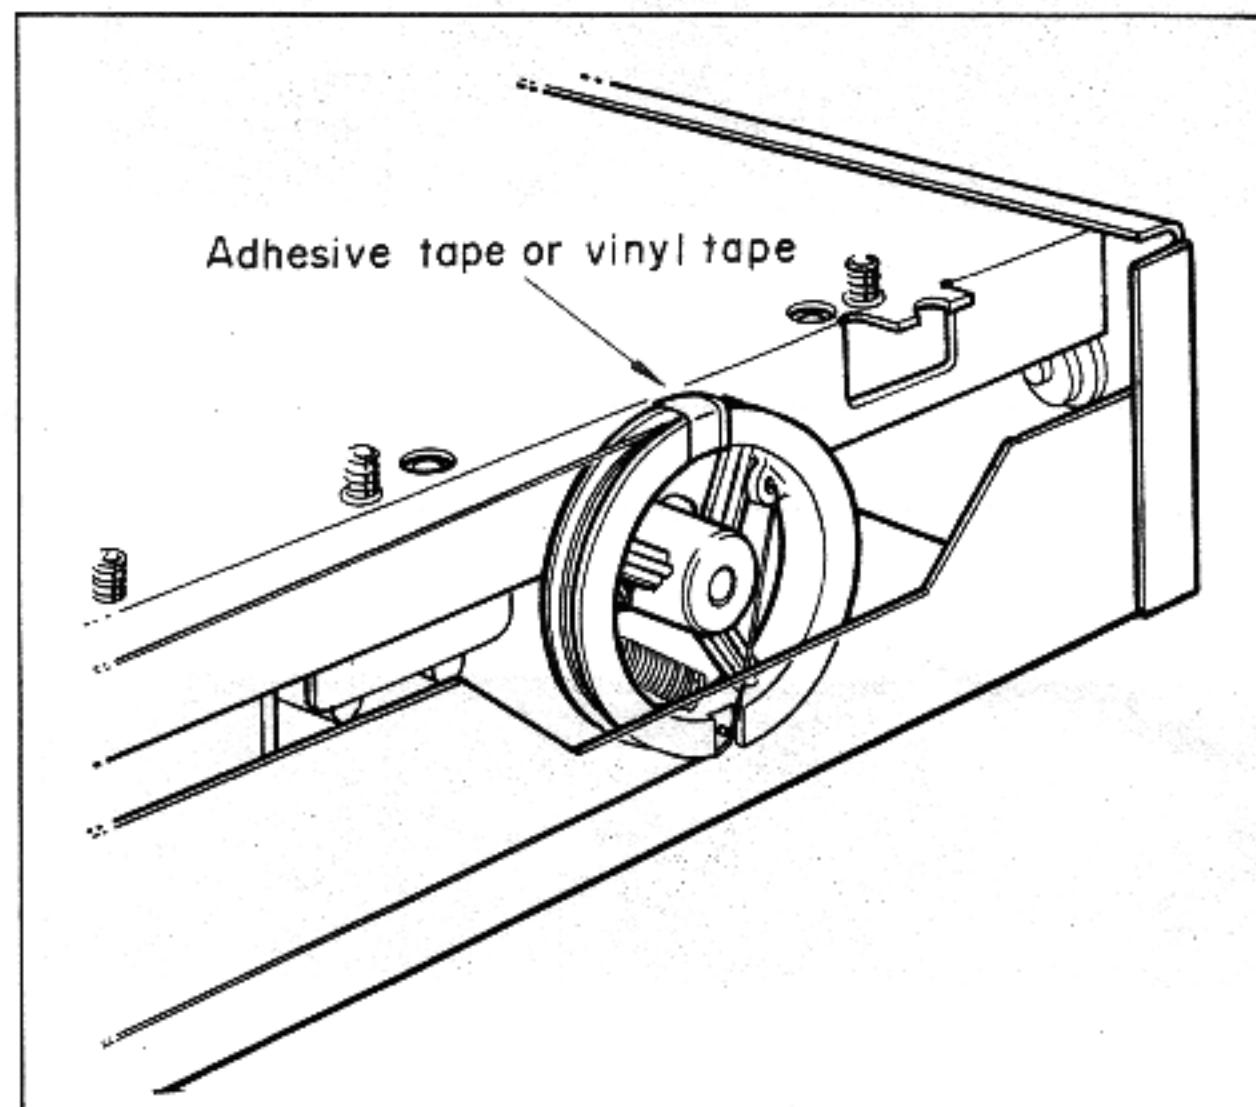

Fig. 1
**3. Tuner printed circuit board (1) removal**
- Pull out connectors #4 and #5 in Photo 2 which are connected to the tuner printed circuit board (1).
- Remove screws (1) and (2) in Photo 3 (M3 x 6 bind head screws), and then remove the power switch along with the fitting.
- Remove screws (11) to (16) in Photo 2 (M3 x 6 bind head screws), and then remove the tuner printed circuit board (1).
- Loosen screws (17) and (18) of the variable capacitor pulley in Photo 2 and then pull out the pulley from the variable capacitor shaft. You will find that if you wind adhesive tape or vinyl tape to secure the dial string to the pulley so that the string does not get tangled up (see Fig. 1), the replacement operation will be facilitated.
- Remove screws (A) to (C) in Photo 2, and then remove the RF front end pack.